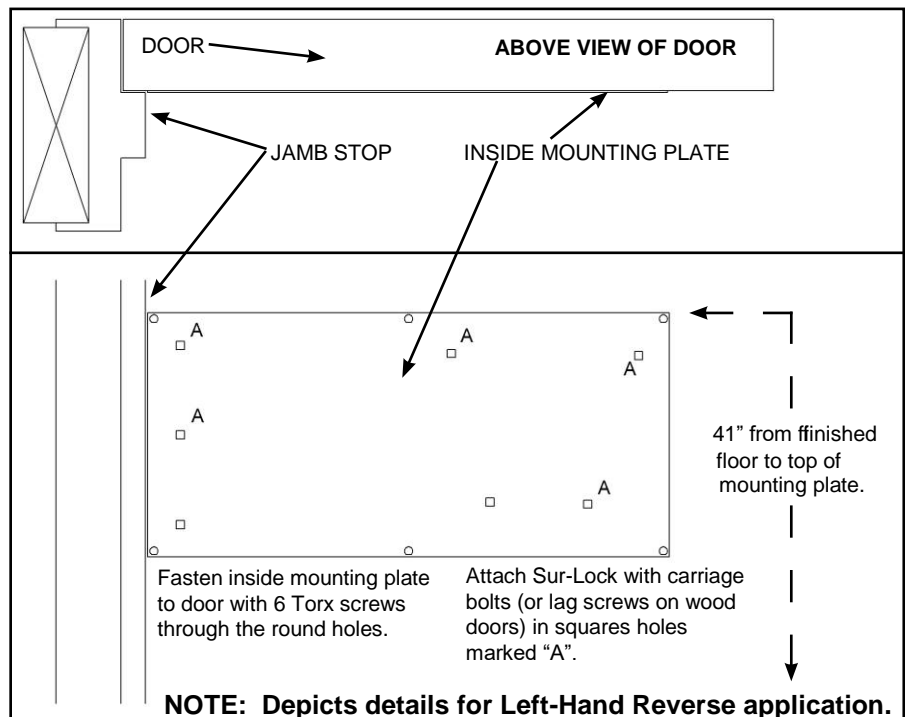

FIGURE 1
3. Keeping the door closed, place the inside mounting plate against the inside surface of the door - aligning so that the top edge of the mounting plate is even with the mark made in the previous step and the jamb-side edge is even with the stop on the door jamb (See Figure 1).